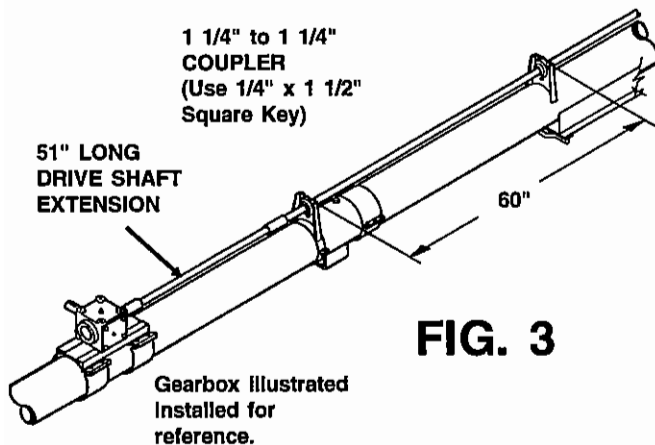

FIG. 3
2. Slide bearing stands onto extension drive shaft. Attach extension drive shaft to auger drive shaft using a coupler and two 1/4" x 1 1/2" square keys. See Fig. 3 for correct bearing stand spacing. Fasten bearing stands in place, using halfbands and 5/16" x 1 1/2" bolts and nuts. Tighten two bearing setscrews to lock bearing to extension drive shaft.